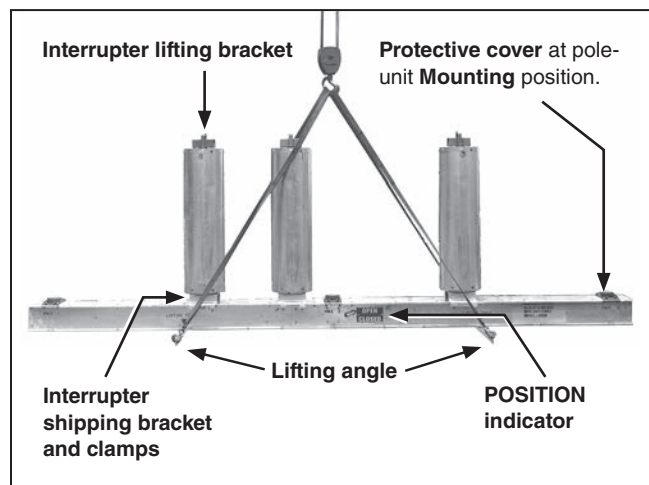

Figure 5. Hoisting the high-speed base using a crane.
- STEP 8.** Attach the supplied lifting angles to the high-speed base using the $\frac{1}{2}$ -12 \times 1 $\frac{1}{4}$ -inch hex-head galvanized steel cap screws furnished. See Figure 5. Securely tighten the cap screws, and then attach four suitable lifting slings to the lifting angles.
- (e) Remove the protective cover on the high-speed base at the pole-unit **Mounting** position. See Figure 5 on page 12. Continue to raise the pole-unit to its mounting position at the center of the high-speed base, as shown on the catalog drawing. Carefully guide the pole-unit to avoid damaging the insulated operating rod.